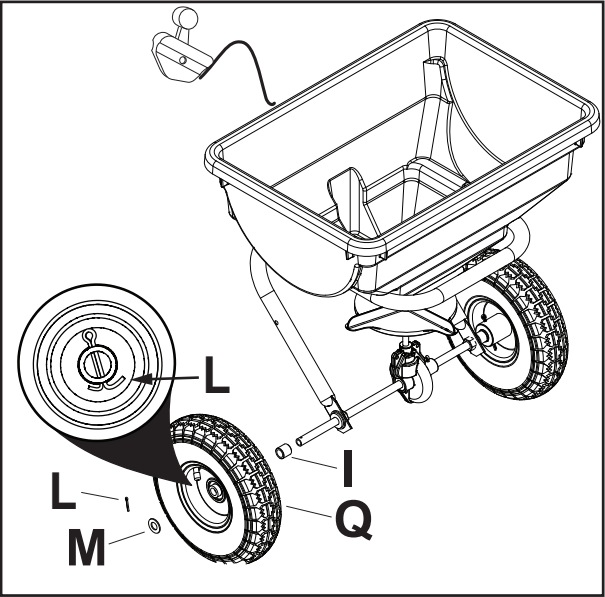

Figure 6
STEP 6 (SEE FIGURE 6): Attach the other wheel by sliding onto the right end of the axle a spacer (I), a wheel assembly (Q), and a 17/32" washer (M). Secure with a 3/32" cotter pin (L) by sliding it through the hole in the end of the axle and bending the ends.